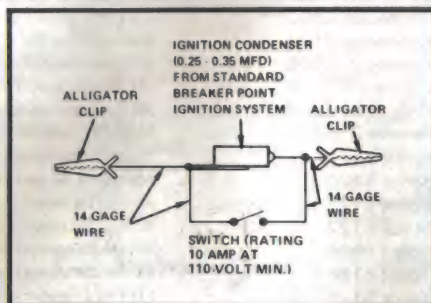

Figure 1— Ignition Test Jumper
Make up a test jumper as shown in Figure 1 below. It is important to use only this test jumper when making these checks. Solid wire jumpers will not work for the quick checks.
- b. Unplug connector at **TFI Module**. In the harness side of the connector, connect the special test jumper (Figure 1) between ground and the DG/Y D lead. Use a straight pin in connector socket hole to make contact.